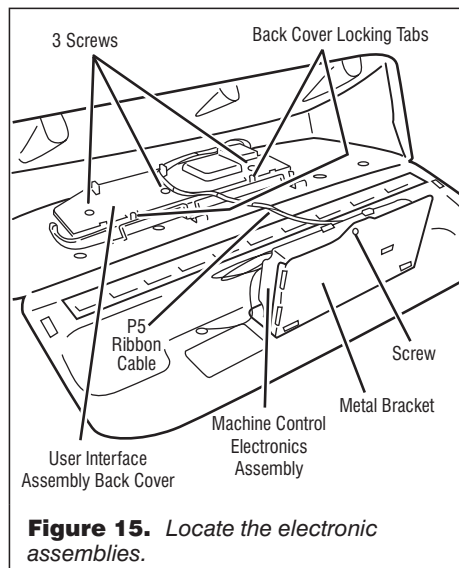

Figure 15. Locate the electronic assemblies.
There are two electronic assemblies; the machine control electronics and the user interface electronics. See figures 15 and 16.
4. Remove the one screw holding the machine control assembly to the metal bracket. See figure 15.
3. Remove the wire connections from the user interface assembly, including the P5 ribbon cable. See figure 15.
5. The user interface assembly is held to the console insert panel by three screws and two locking tabs. After the screws are removed, lift each of the locking tabs to remove the back cover of the user interface assembly. See figure 15.